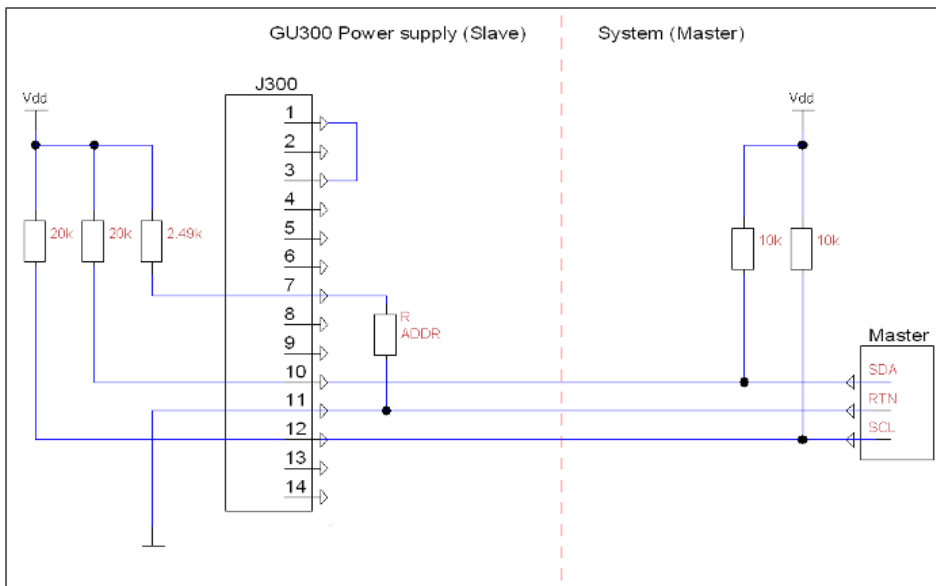

Figure 1: PMBus Master - Slave connection setup
- Ensure correct pull ups to Vdd on master – slave communication lines. The power supply (slave) has internal 20kOhm pull up resistors. The recommended values of the pull up resistors on the system side (master) are 10kOhm as shown on figure 1. Be sure not to override the maximum allowed current of 4mA if pull up resistors with other values are used.